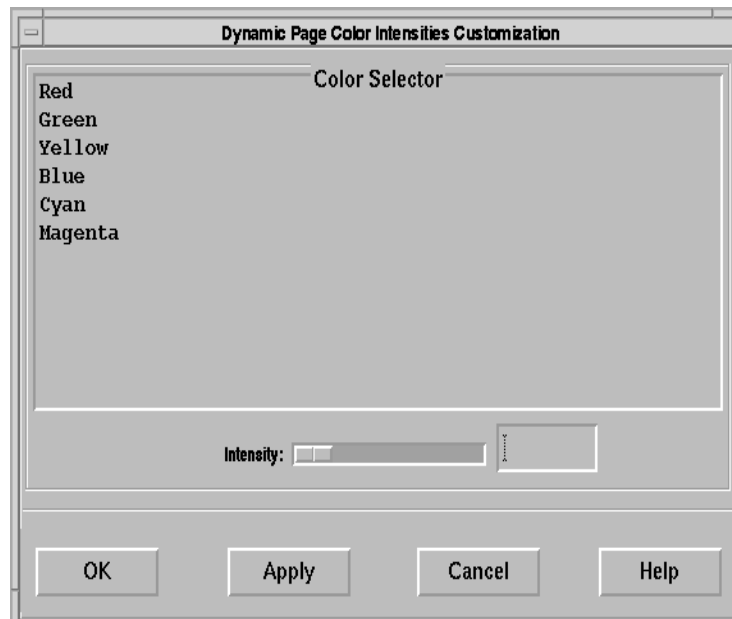

Figure 7.4.3-1. Dynamic Page Color Intensities Customization Window
1. **Open the Dynamic Page Color Intensities Customization window (see Figure 7.4.3-1).**